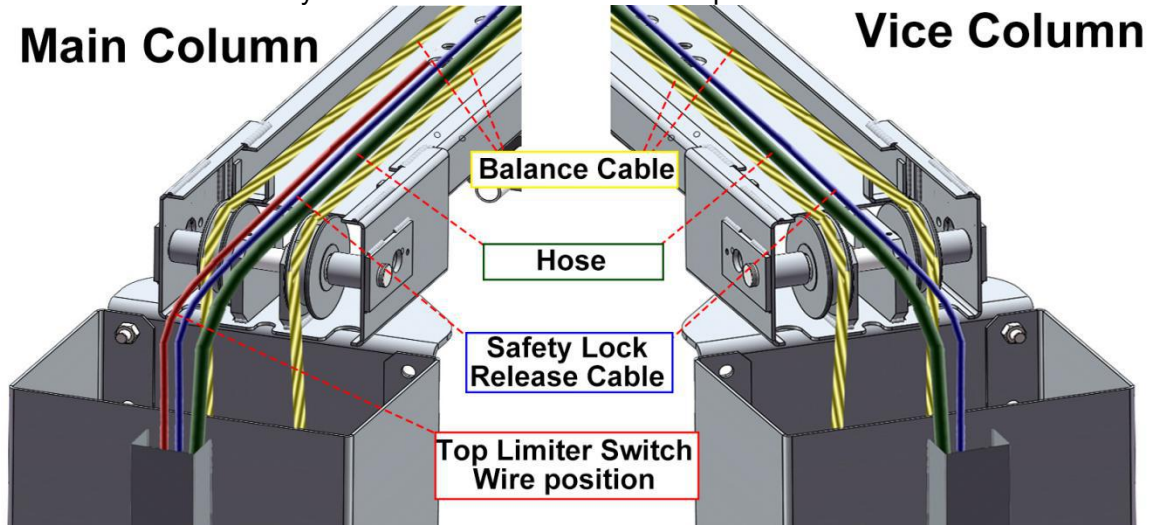
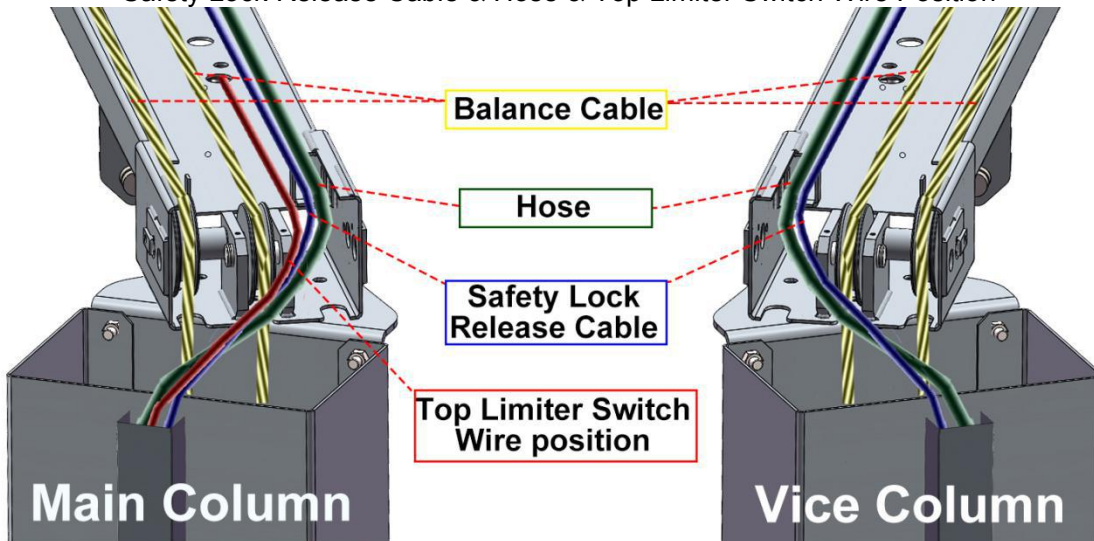

Fig17 Symmetric Installation
Fig 18 Asymmetric Installation
1. Safety Lock Release Cable & Hose & Top Limiter Switch Wire Position (Fig 17&Fig 18)